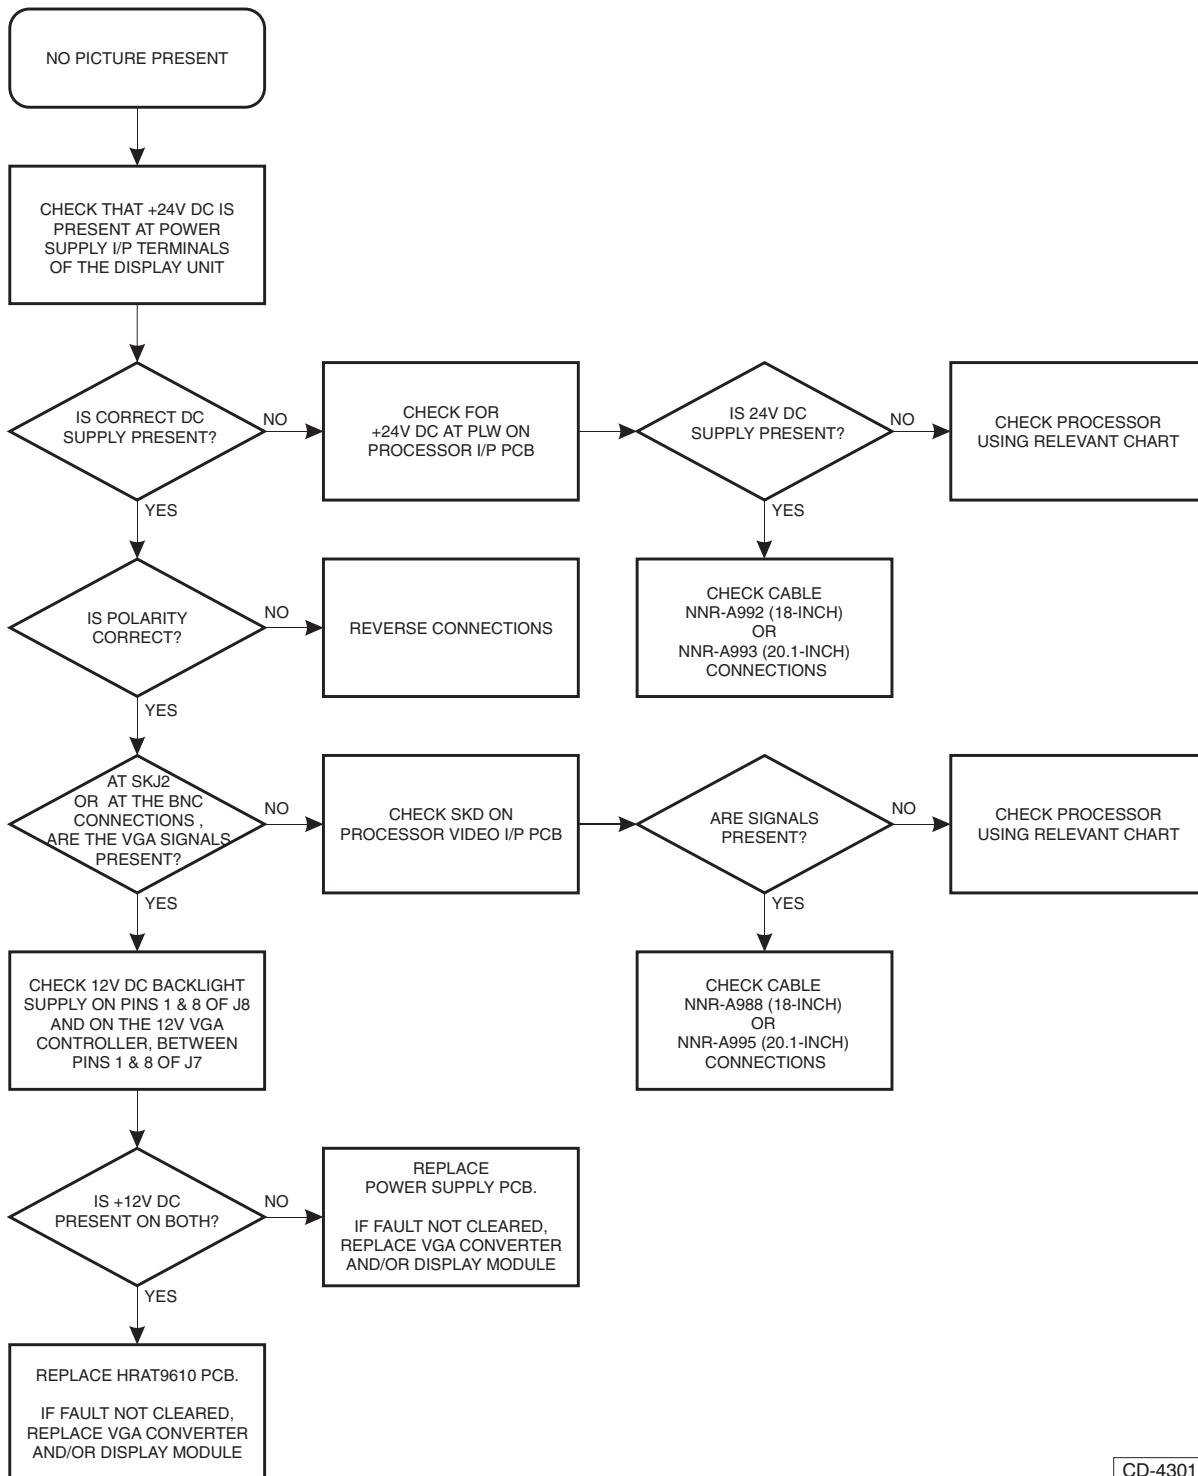

Figure 8c - Flat Panel Screen Display: Fault Finding Algorithm
- 93 A diagnostic algorithm is provided in Figure 8c to provide the operator/technician with a step-by-step guide through the fault finding procedure. The algorithm is intended for identification of faults to LRM level (e.g. a faulty PCB or cable/connector assembly).